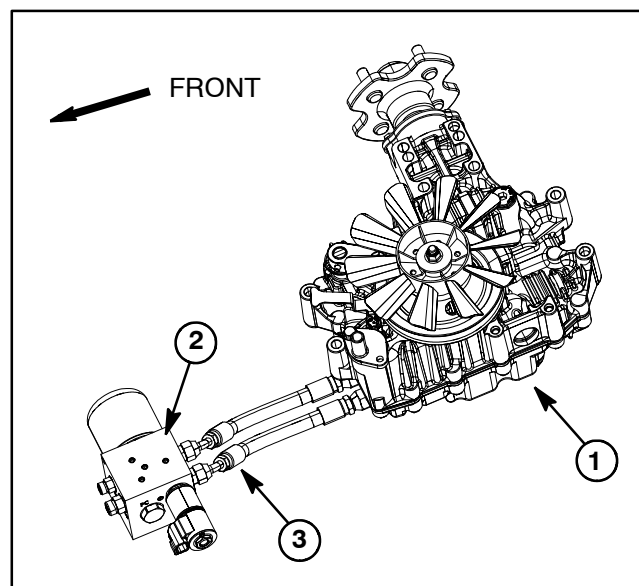

Figure 24
4. Disconnect hydraulic hose from fitting in control manifold port P to allow tester with pressure gauge and flow meter installation (Fig. 24).